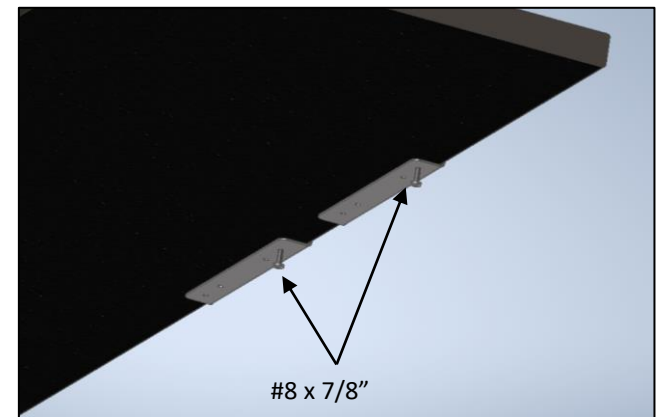

Figure 3
3. Secure the wall by screwing #8 x 3/4" screws into the pre-drilled holes on the bottom of the slat wall (Figure 3)